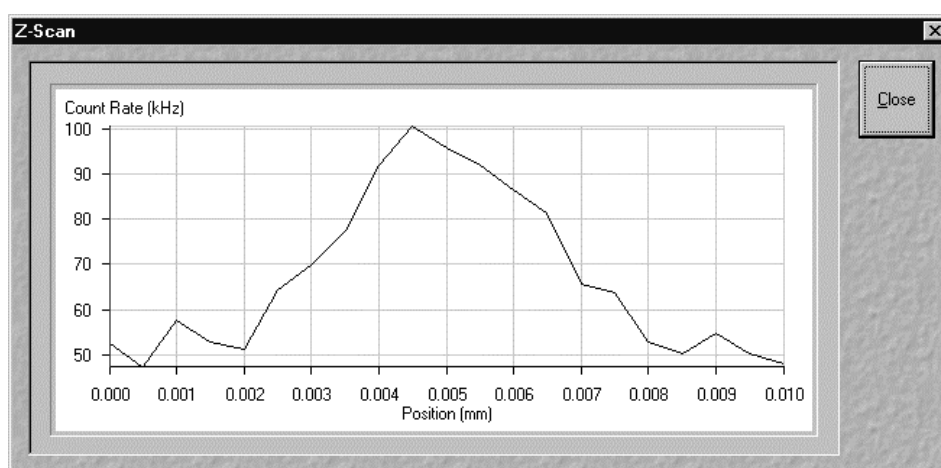

Fig. 5-194 Z-Scan result window
This means, that the focus is moved in either the X, Y, or Z direction over a preselected distance while the count rate in one or both of the detection channels as defined by the channel check boxes is recorded. A maximum (or minimum) in the resulting curve (Fig. 5-194) usually indicates a region of interest. The focus can be positioned to this region by a simple mouse click.
- Clicking on **Start** opens a new window showing a count rate graph (Fig. 5-194).